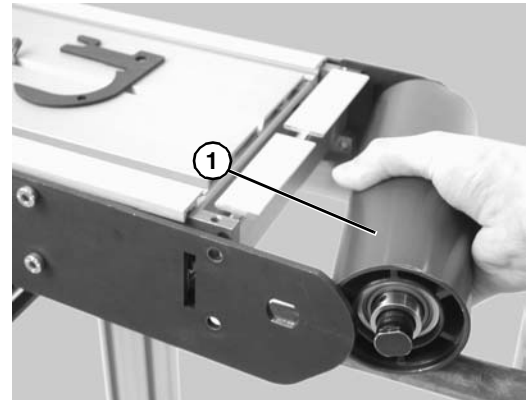

Figure 51
4. Slide the idler pulley assembly (**Figure 51, item 1**) out of the headplate on the opposite side.